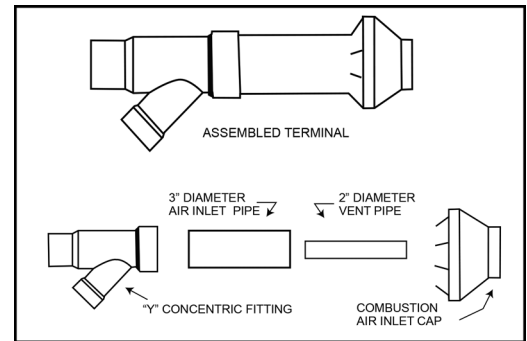

Figure 1 - Vent Terminal Assembly
(see Fig. 1).
b. Cement rain cap to smaller diameter kit pipe (see Fig. 1).